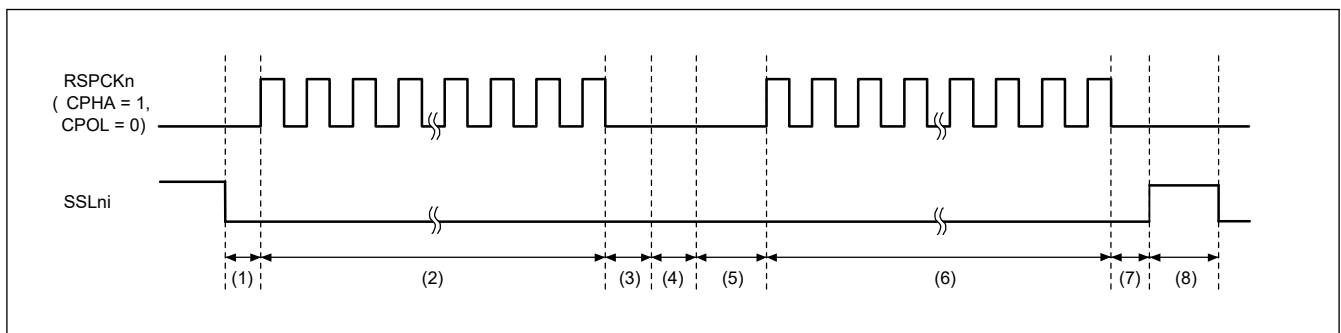

Figure 43.60 Example of Burst Transfer Operation Using SSLKP Bit (BFDS = 0, SPFRF = 0)
Figure 43.60 shows an example of SSLni signal operation when burst transfer is achieved by using the settings of SPCMD0 and SPCMD1. The following describes SPI operations of (1) to (8) shown in Figure 43.60. The SSLni output signal polarity depends on the set SPI SSLni signal polarity bit (SPCR3.SSLiP) (i = 0 to 3) value.